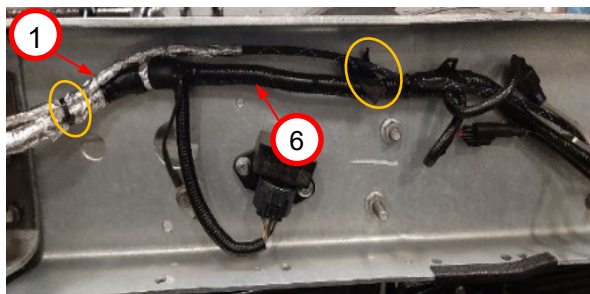

Figure 16.
9. Route fuel system chassis harness (1) along OEM chassis harness (6) along PS chassis frame rail and use zip ties (*circled*) to secure to OEM chassis harness. *Figure 16*